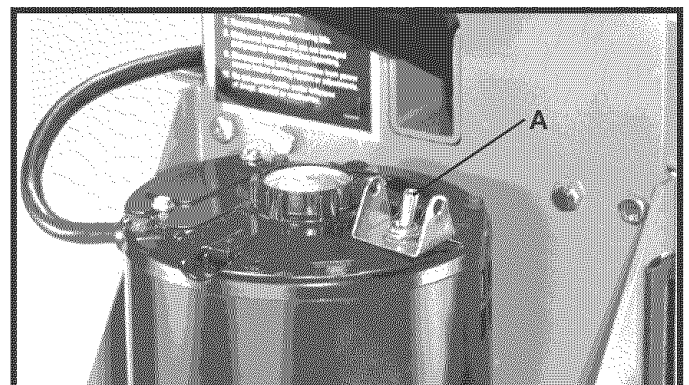

Fig. 45
The switch (A) Fig. 45, is located on the top of the motor. To turn the machine "ON", move the switch (A) to the ON position and to turn the machine "OFF", move the switch (A) to the OFF position.